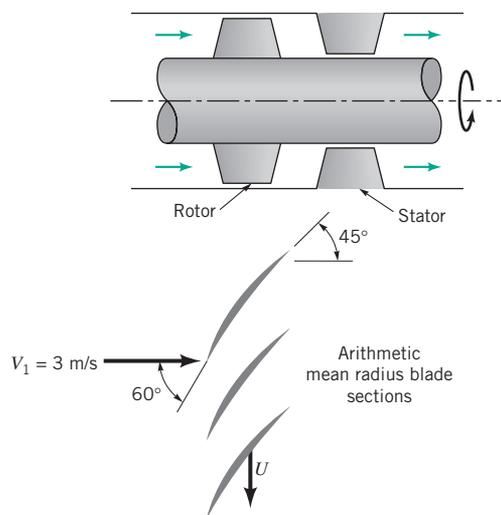

FIGURE P5.59
5.59 An axial-flow gasoline pump (see Fig. P5.59) consists of a rotating row of blades (rotor) followed downstream by a stationary row of blades (stator). The gasoline enters the rotor axially (without any angular momentum) with an absolute velocity of 3 m/s. The rotor blade inlet and exit angles are 60° and 45° from axial directions. The pump annulus passage cross-sectional area is constant. Consider the flow as being tangent to the blades involved. Sketch velocity triangles for flow just upstream and downstream of the rotor and just downstream of the stator where the flow is axial. How much energy is added to each kilogram of gasoline?